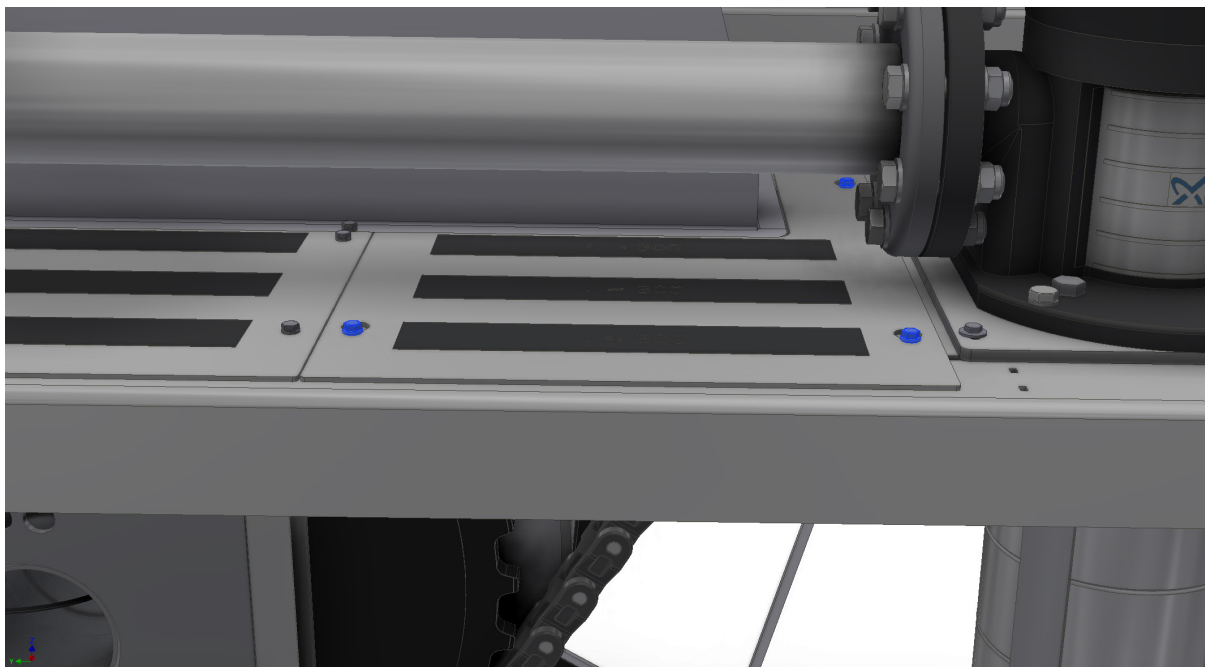

Figure 7.22 The three screws holding the flooring tile highlighted in blue.
5. Adjust the chain setting, if necessary, with use of the chain tensioner, see figure 7.22.
3. Remove the flooring tile with the three screws marked blue in figure 7.22. This is done by releasing the tension of the screw and the sliding the tile towards the end of the filter. Then lift the tile to get access down below.
4. Loosen the two screws to the left in figure 7.22. The screws are loosened enough when the chain tensioner is able to move freely. Be careful when loosening the screws so that the bracket underneath the beam doesn't fall off. Loosen the nut on the adjustment screw.